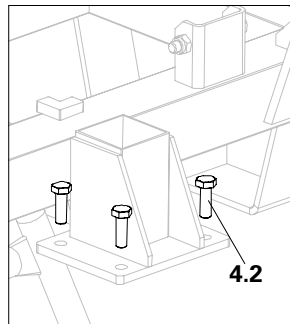

Fig. A1.02a
1. Keep the pallet AD (4) on PERI workbench (qty. 2) (art. no.: 065051) or any suitable workbench.
2. Insert the four numbers of M10 x 30 bolts (4.2) (art. no.: 116436) at each wheel location. (Fig. A1.02a)